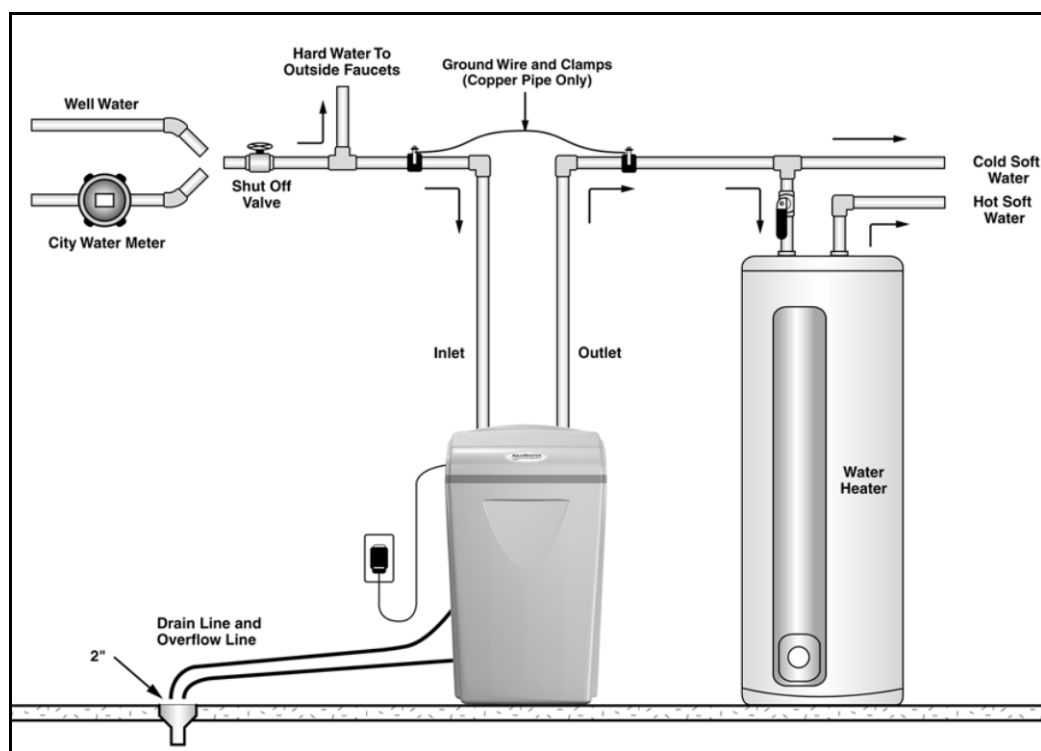

Figure 1: Appliance Placement
- F. Place the appliance in the desired location using Figure 1 as a guide. The diagram in Figure 1 applies to basement, slab, crawl space, and outside installations. For under counter (kitchen sink), consult the factory for recommended instructions.